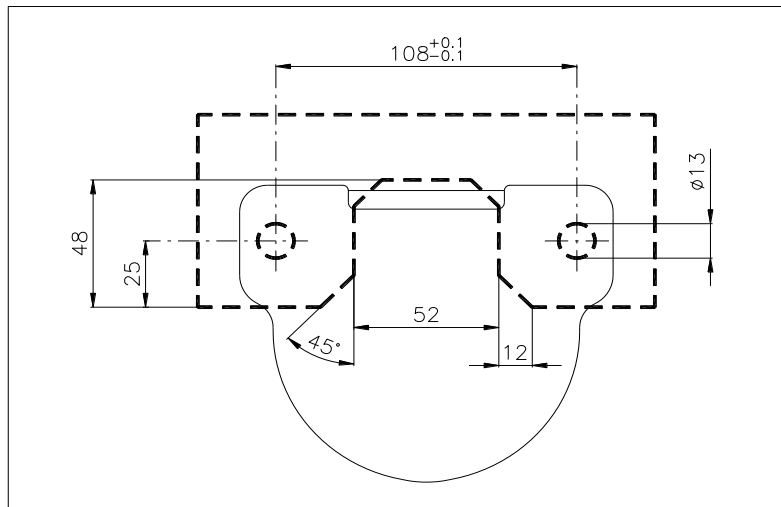

Figure 1
1. The ID 800 brake must be overhang mounted on a rigid surface of the machine adapted for the purpose (Figure 1) and coupled with a disc of thickness 12.7 mm or 8 mm and diameter no less than 250 mm using 2 class 12.9 M12 screws with a tightening torque of 130 Nm.